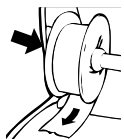

Figure 9
- 6 Insert the label spool into the slot in the printer cover with the labels extending from underneath the roll. See Figure 9.